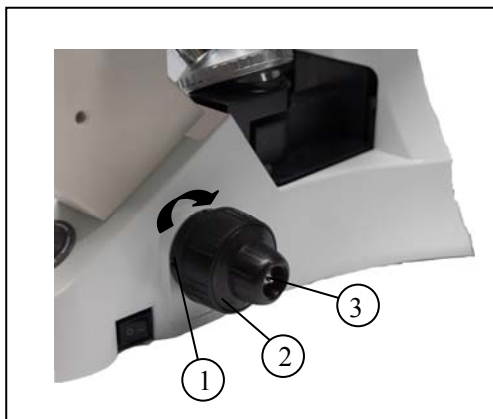

Figure 18
4-1-3 Adjusting the Tension Adjustment Collar (fig.18)
If the nosepiece dropped automatically, or the specimen defocused soon even you focus with the fine focus knob③. It means the coarse focus knob is too loose, you should screw it down at the direction shown by the arrowhead in the figure18.